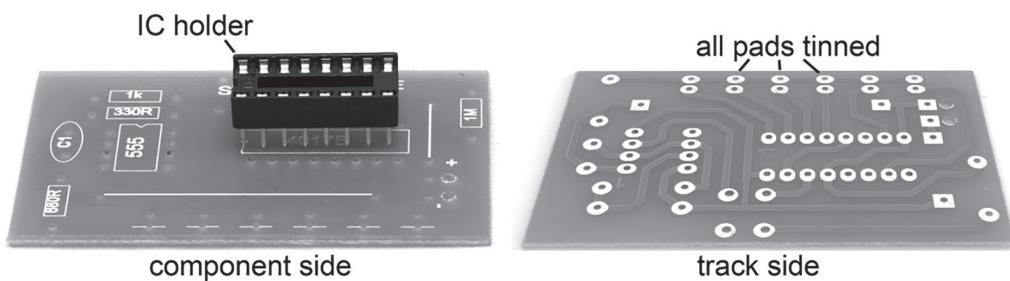

Fig. 14
- (b) A printed circuit board (PCB) and an IC holder are shown in Fig. 14.